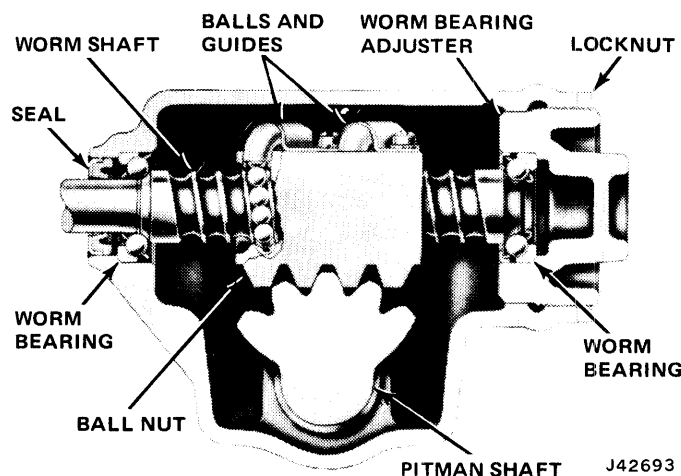
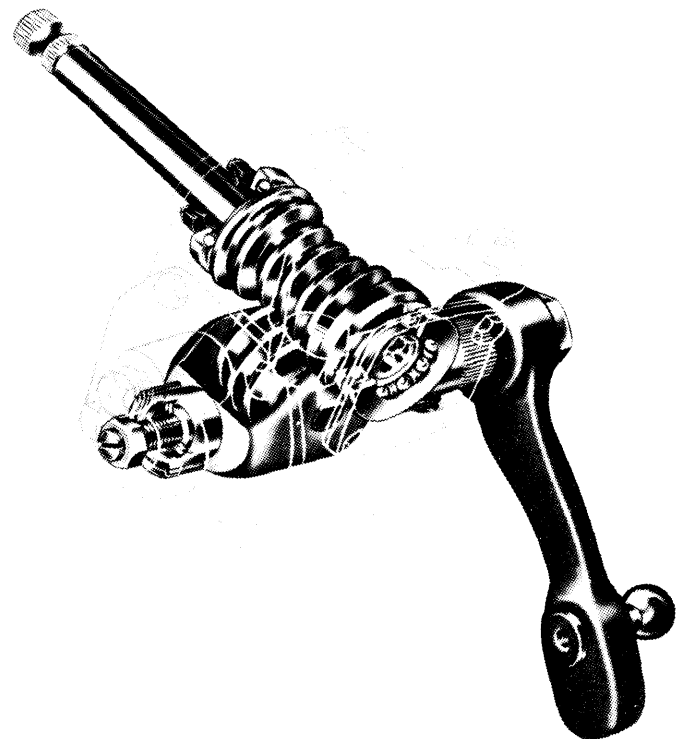

Fig. 11-45 Recirculating Ball Gear—Left-Hand Drive Vehicles
Fig. 11-46 Worm and Roller Gear—Right-Hand Drive Vehicles
Two different design manual steering gear units are used in Jeep vehicles. Left-hand drive models use a recirculating ball, worm and nut-type gear (fig. 11-45). Right-hand drive models use a worm and roller-type gear (fig. 11-46).
- (1) Rotate wormshaft until shaft is at center of travel. When centered, shaft index mark located beneath double spline, should be centered between upper and lower end of shaft when viewed from cover side of gear (fig. 11-45).